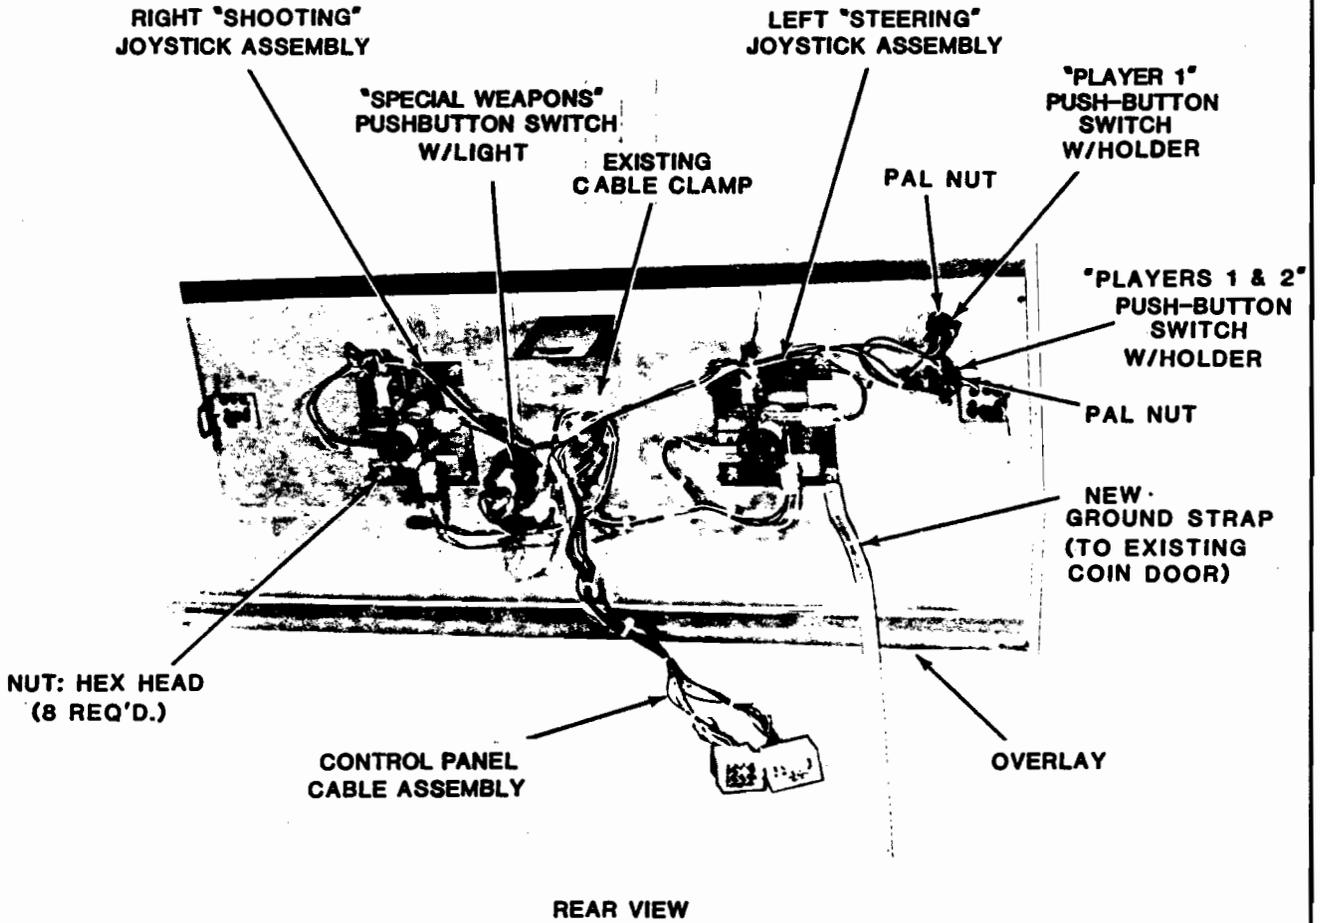
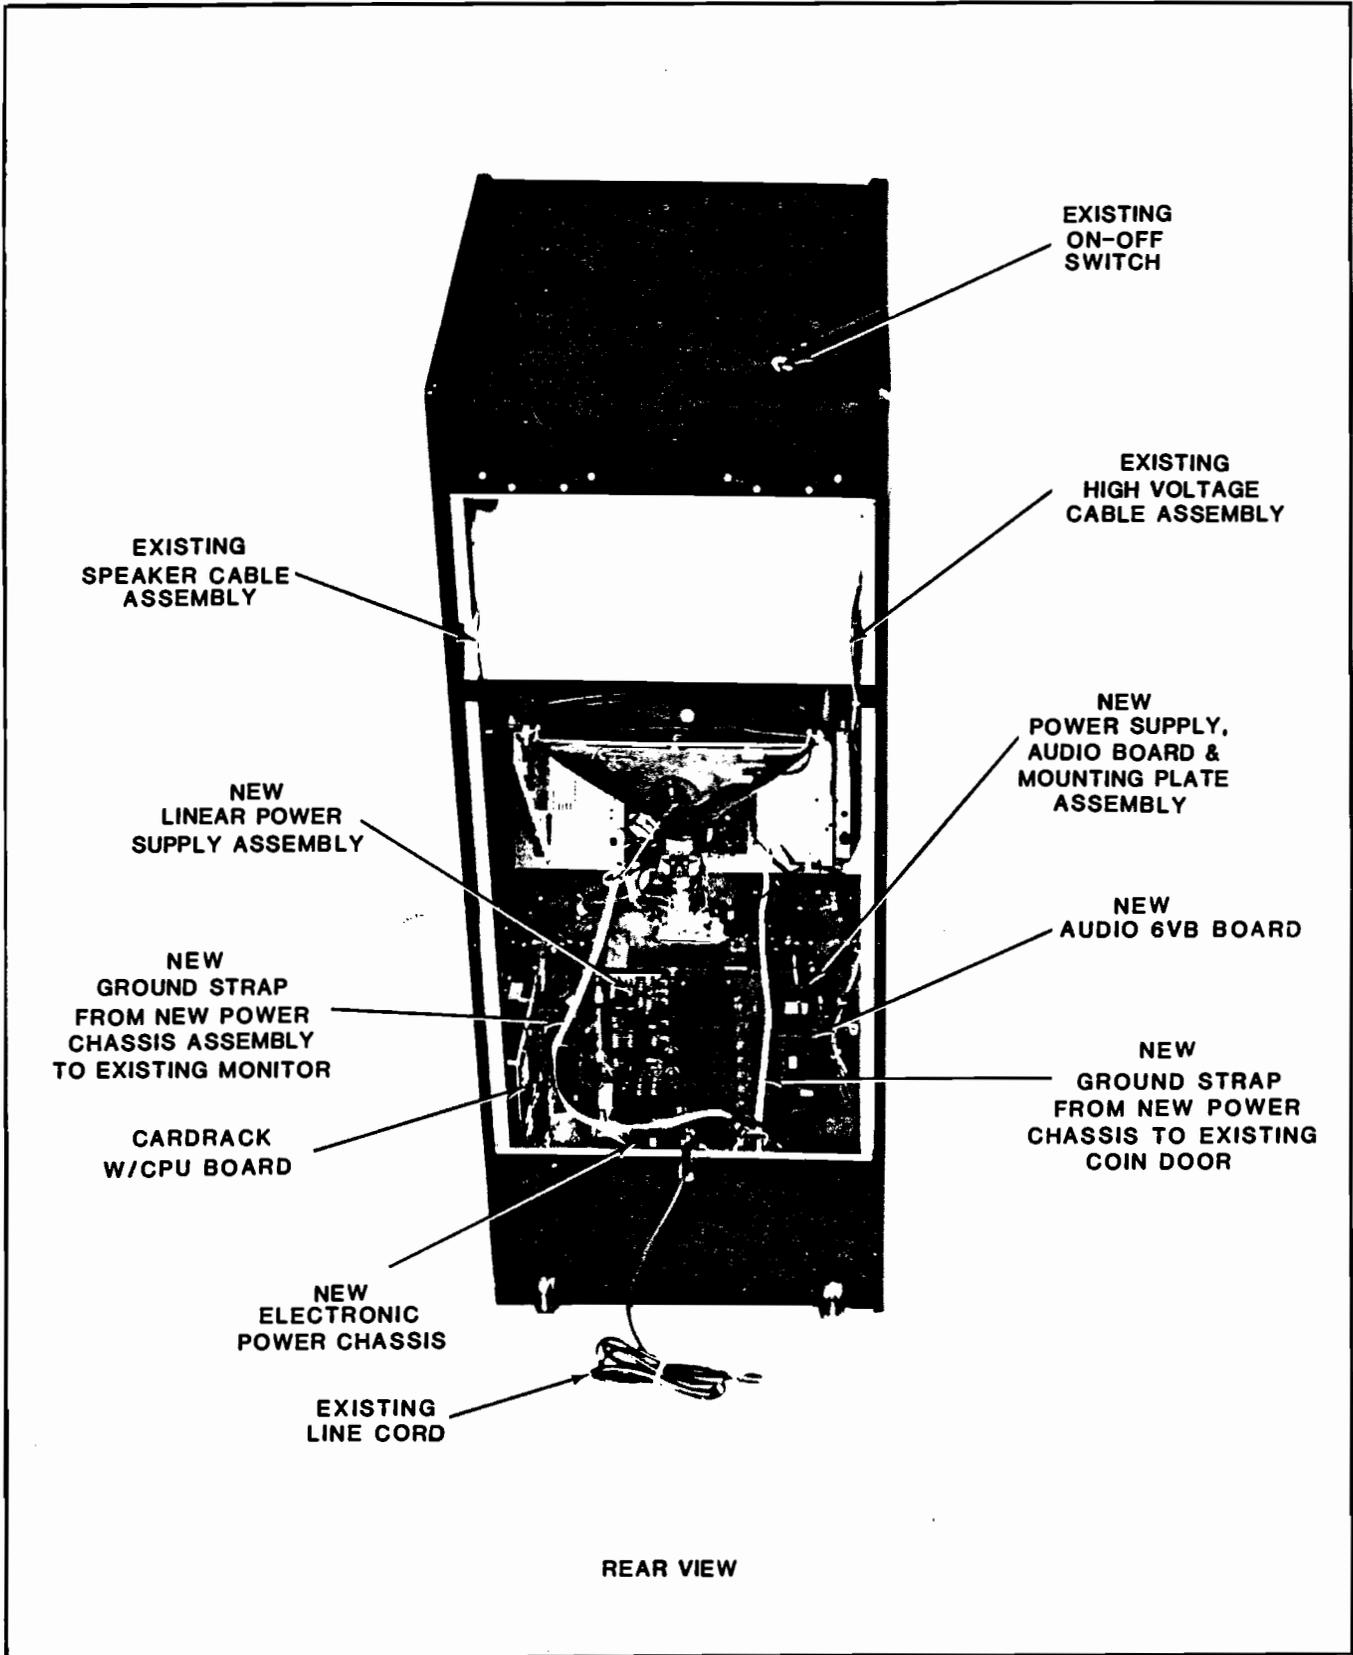

FIGURE 2. NEW CONTROL CABLE ASSEMBLY CONNECTED
FIGURE 3. PLACEMENT OF NEW ELECTRONIC ASSEMBLIES IN GAME CABINET
- F. Route new Control Panel Cable Assembly and solder its' bare wire ends to terminals of new controls as shown in Figure 2 and Wiring Diagram (page 1 of 2). Reuse existing cable clamps.
2. Install new POWER CHASSIS ASSEMBLY, new POWER SUPPLY, AUDIO BOARD & MOUNTING PLATE ASSEMBLY, and new CARD RACK WITH CPU BOARD ASSEMBLY to inside of your cabinet in locations as suggested in Figure 3. Transformer on POWER CHASSIS ASSEMBLY should be to your left in your cabinet. We recommend that you use #8 wood screws of sufficient length to secure above new assemblies to your cabinet.
3. To install new Master Cable Assembly (refer to Figure 3 and both wiring diagrams):
7. Installation of four (4) new Ground Straps which are supplied in your kit (refer to Figure 2, Figure 3, and POWER CHASSIS ASSEMBLY Illustration):